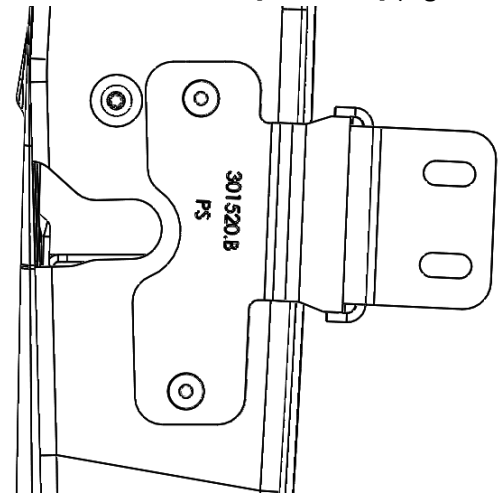

Figure 10: Inner Passenger Door Latch Installed
21. Install inner door bracket using provided countersunk hardware [PN 70458] (Figure 10).